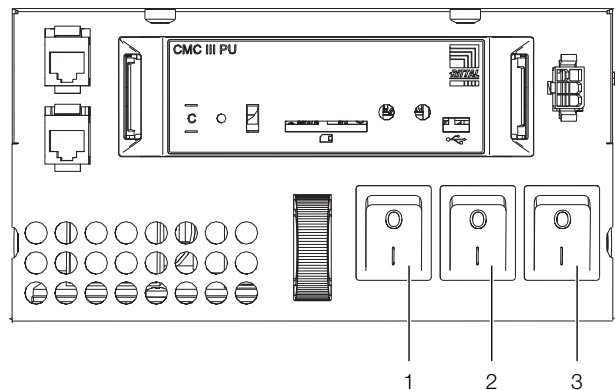

Fig. 44: Electronic module with master switch
On the LCP Inline Flush, On/Off switch 3 (fig. 44, item 3) is not assigned and therefore has no function.